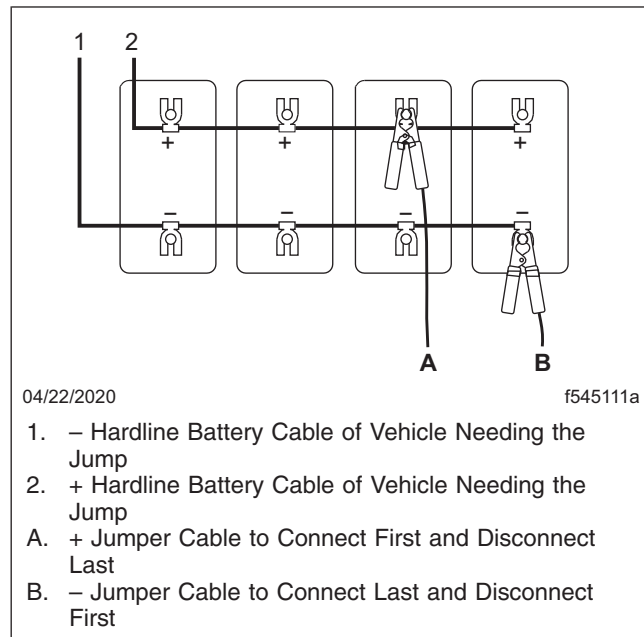

Fig. 23.4, Jumper Connections on Vehicle Needing Jump Start
3. Connect the positive (+) jumper cable to the positive battery post or jump start post on the vehicle needing the jump start. See Fig. 23.4, ref. A.
6. Then connect (ground) the other end of the cable to a negative battery or jump start post on the vehicle needing a jump start. See Fig. 23.4, ref. B.
10. Disconnect the negative (grounded) jumper cable from the vehicle that needed the jump start. See Fig. 23.4, ref. B.
13. Then disconnect the other end of the positive jumper cable from the positive battery or jump start post of the vehicle that received the jump start. See Fig. 23.4, ref. A.